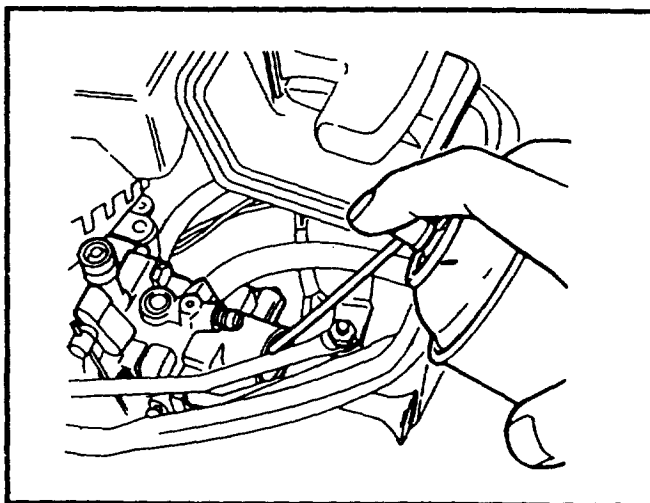

FIGURE 41
- When motor begins to stall, rapidly inject a rust preventative oil into the carburetor air intake for ten (10) to twenty (20) seconds until motor stops (Figure 41).